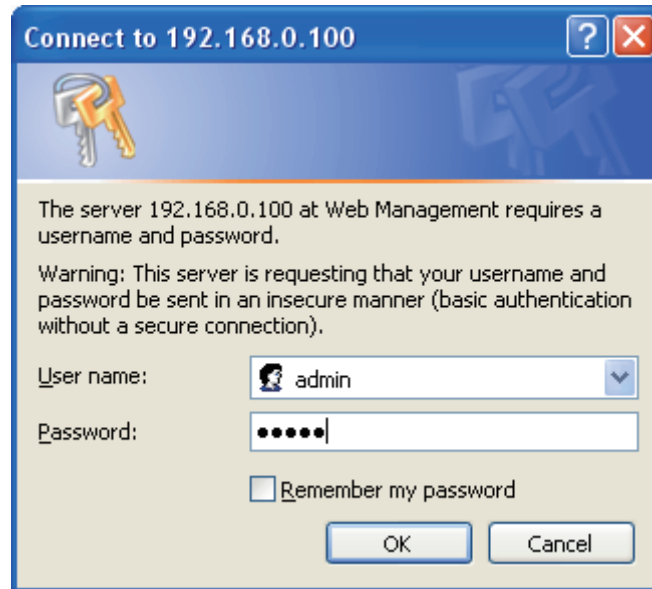

Figure 9-2: Login Screen
2. When the following dialog box appears, please enter the default user name and password "**admin**". The login screen in Figure 9-2 appears.